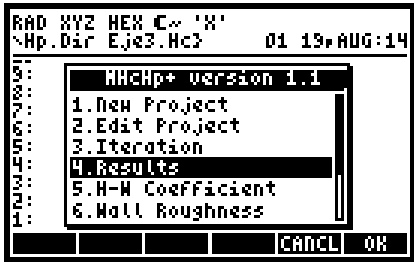

Figure 4.8a
Use arrow keys to select item 4.Results, as it is shown in figure 4.8a. If iteration is correctly ended, this option can be chosen.